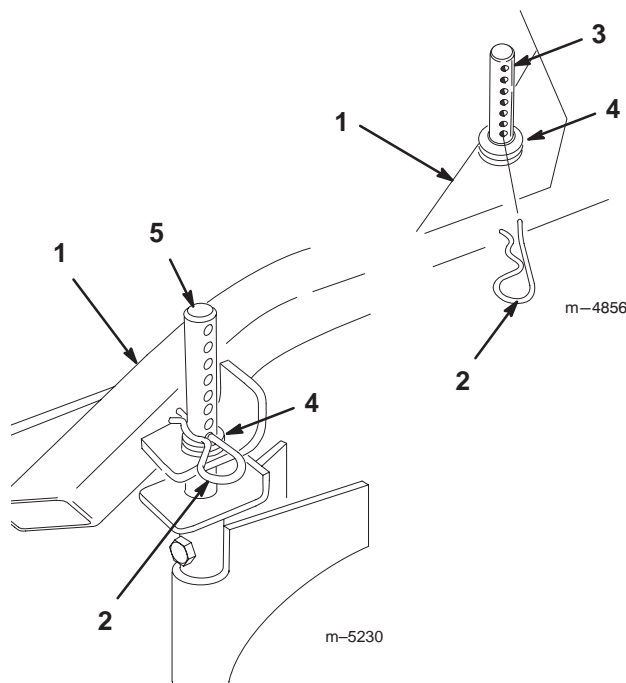

Figure 18
1. To adjust, remove hairpin cotter from height-of-cut post (Fig. 18).
2. Select hole in height-of-cut post corresponding to the height-of-cut desired (Fig. 18).
3. Lift on side of deck and remove hairpin cotter (Fig. 18).
4. Add or remove spacers, if needed, and then align holes and insert hairpin cotter (Fig. 18).